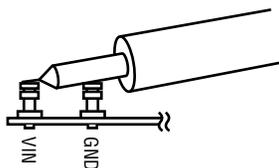

Figure 9. Measuring Output Ripple
**NOTE:** When measuring the input or output voltage ripple, care must be taken to avoid a long ground lead on the oscilloscope probe. Measure the output voltage ripple by touching the probe tip and probe ground directly across the +VOUT and -VOUT terminals. See Figure 9 for proper scope probe technique.